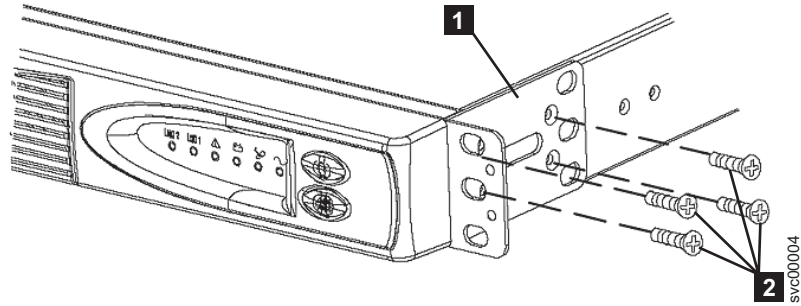

Figure 131. Installing the support rails for a 2145 UPS-1U into the rack
2. Attach the long side of a mounting bracket **1** to each side of the 2145 UPS-1U using four M3 × 6 screws **2** for each bracket. See Figure 131 on page 297.